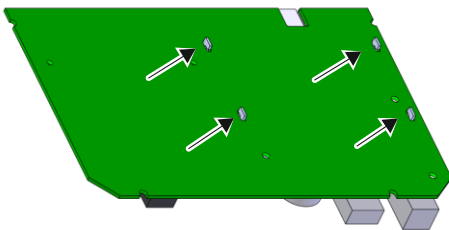

Fig. 2: Rear of USR-51
- Bend back the metall bracket (see Fig. 2)